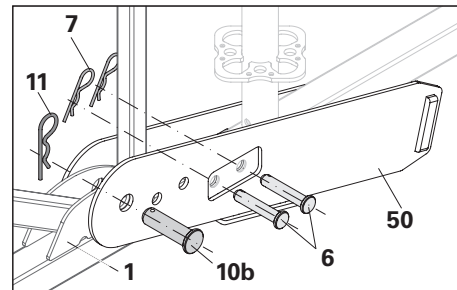

Fig. A1.05a
4. Insert Bolts (**6**) – from the outside to the inside – through the holes of the bottom chord and secure with cotter pins (**7**) – 2x. (Fig. A1.05a)